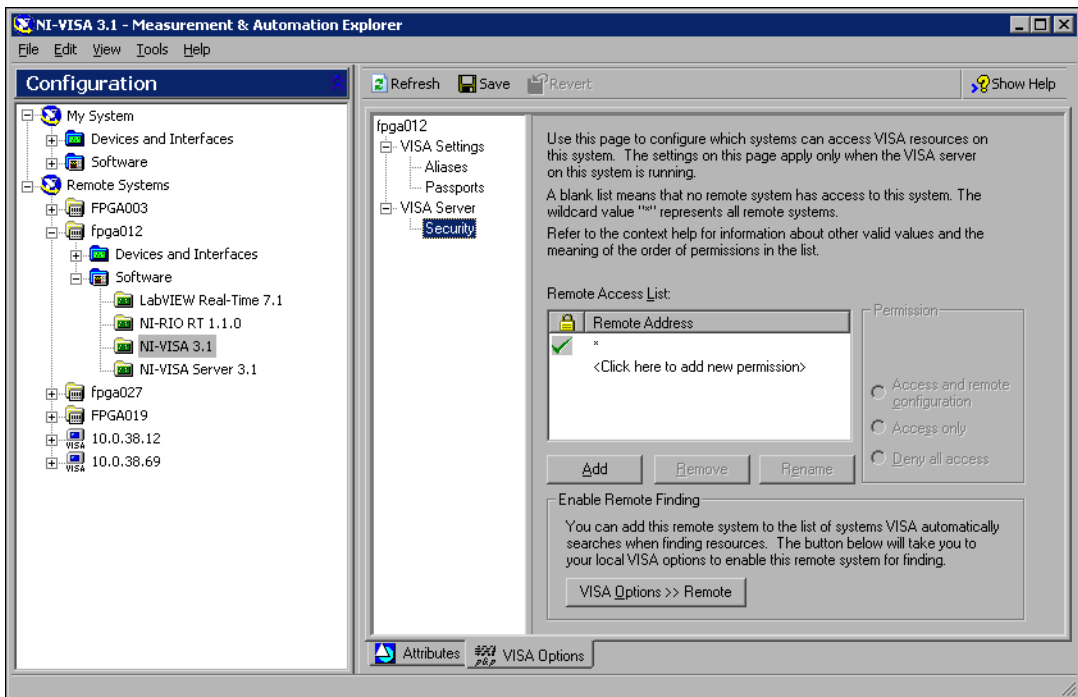

Figure 2. Setting Access Permissions for Remote Systems
3. On the **VISA Options** page, select **VISA Server»Security** to view the **Remote Access List**, as shown in Figure 2.